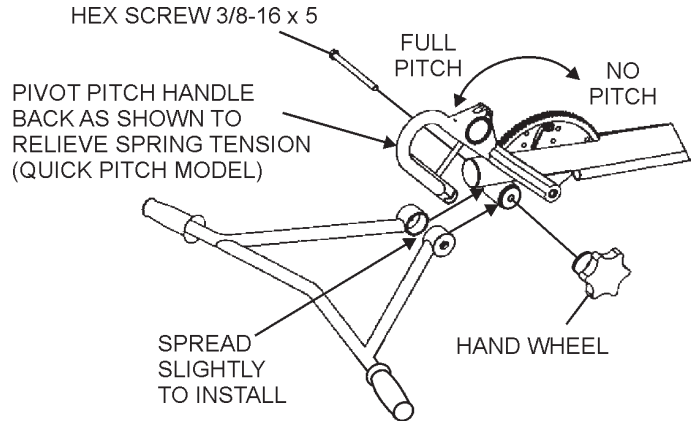

Figure 6. Handlebar Installation
2. On Quick-Pitch™ models, pivot the T-handle back (full pitch). See Figure 6. This will relax the spring inside the handle tube. On either model, spread the handle bar ends just enough to engage the teeth on the handle tube. Attach the hand wheel assembly, position handlebar to desired location, and tighten hand wheel firmly.